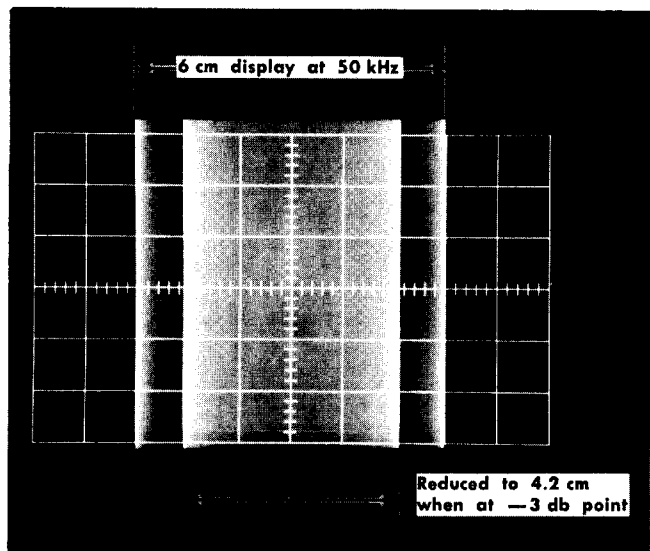

Fig. 5-11. Typical CRT display when checking horizontal amplifier frequency response.
f. Check—Horizontal amplitude of the display must be 4.2 cm or more (see Fig 5-11).